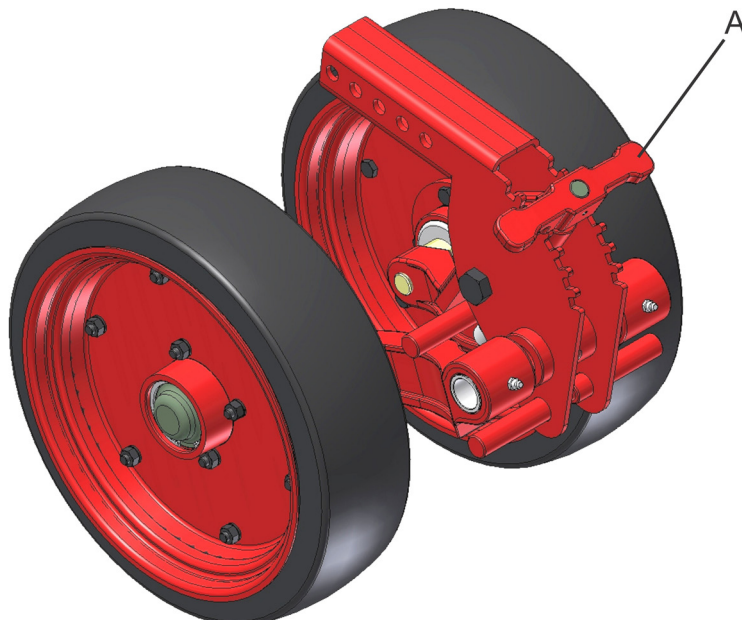

fig. 23
To adjust the depth limiter wheels, suspend the seeder to facilitate such adjustment. Then adjust by means of knob (A) (fig. 23), considering that each position allows an adjustment of 0.4 in 0.4 in.